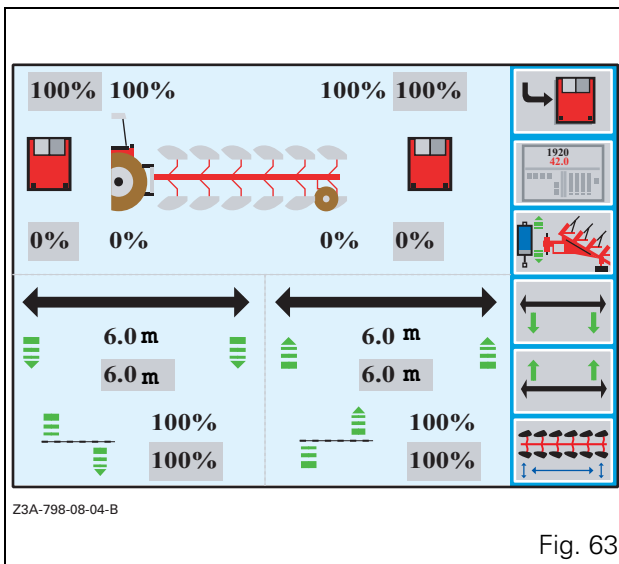

Fig. 63
- Pressing the key \ll_5 returns the user to the REAR DUAL CONTROL configuration menu (Fig. 63).
NOTE: For data description and settings (Fig. 63), see section 7.8. (DUAL CONTROL application).